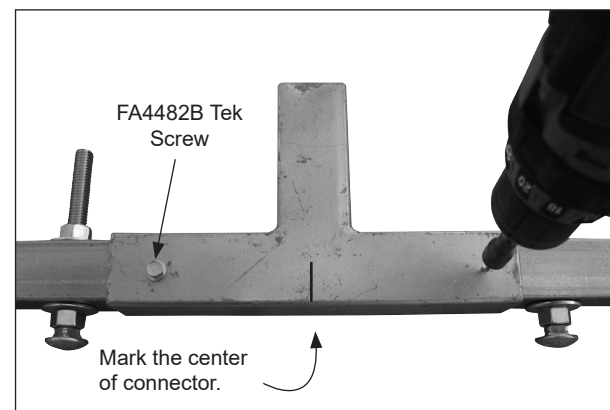

FIGURE 3: Center the connector *on the base rail* and secure using two (2) FA4482B Tek screws.
4. Align the center mark on each connector with the center of the base rail and secure the connector to the base rail as shown in Figure 3.